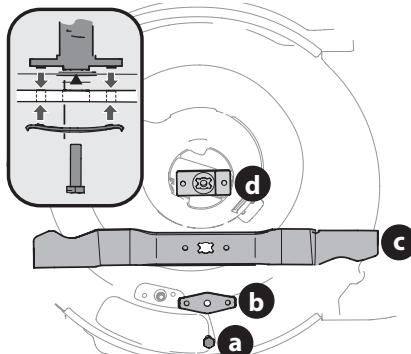

Figure 25
4. Remove bolt (a) and blade bell support (b) which hold the blade and the blade adapter to the engine crankshaft (Figure 25).
5. Remove blade (c) and blade adapter (d) from the crankshaft (Figure 25).
7. Lubricate the engine crankshaft and the inner surface of the blade adapter with light oil (Figure 25 inset).